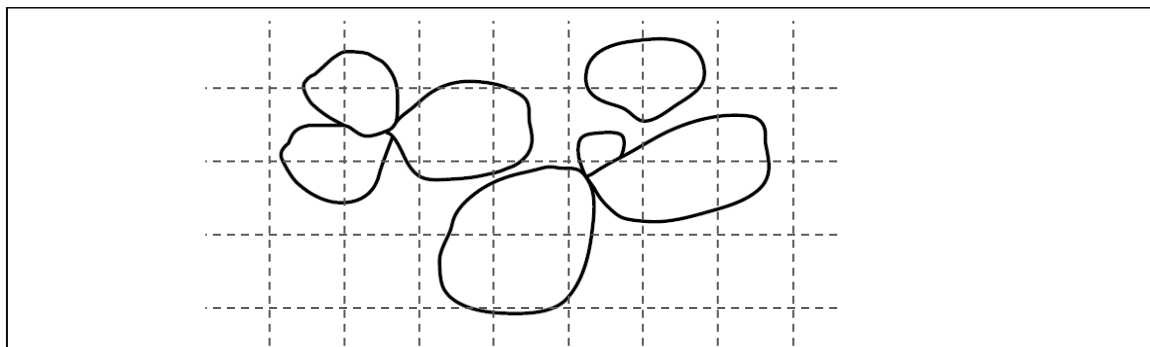

Fig. 3.3
Fig. 3.3 is an enlarged drawing of the same structure that is in Fig. 3.2. Each square of the grid is 1 cm^2 .
- (i) Use the grid to estimate the total area of the thalli shown in Fig. 3.3. [1]